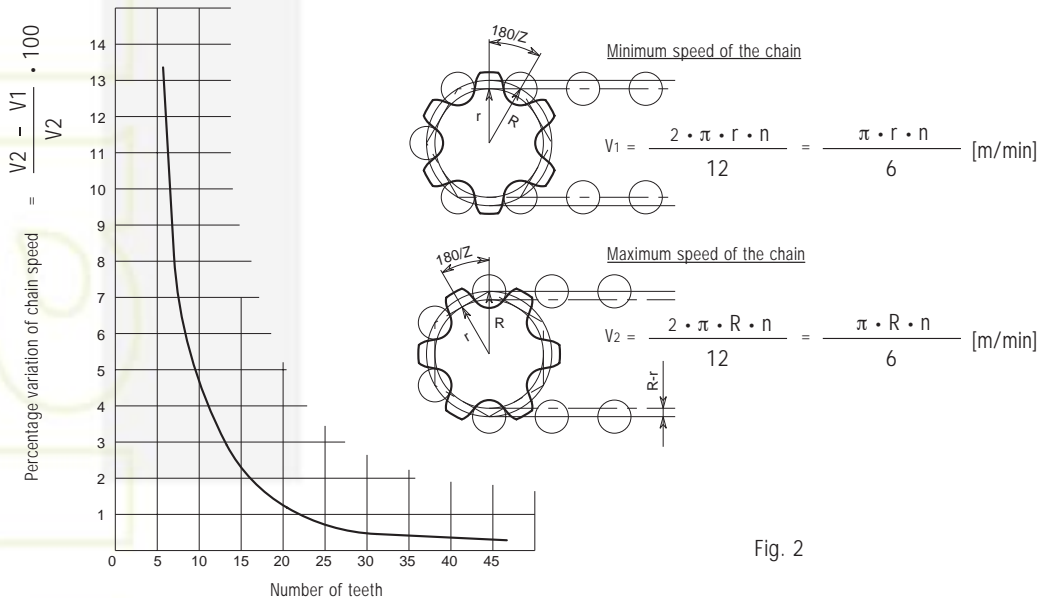

Fig. 2
- The polygonal effect, due to the gearing of the chain with sprockets, (shown in in Fig. 2) can cause a small amount of chain surge. This can be more marked on long pitch chain with number of teeth below 8.